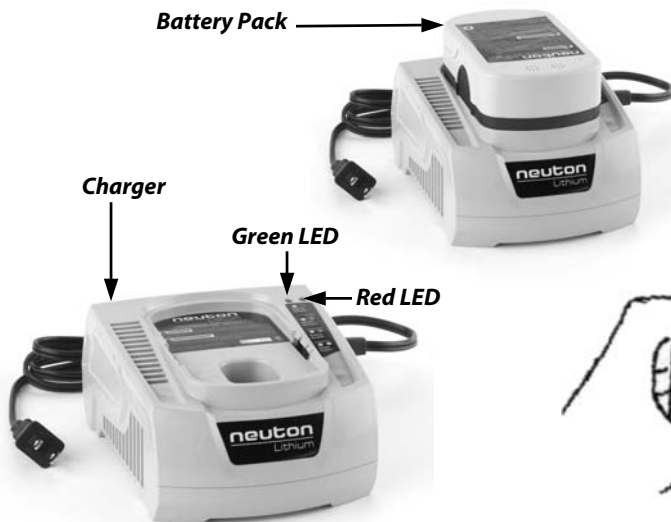

Figure 3
1. Plug the Charger into a standard household electrical outlet (**Figure 3**). The Green LED will glow.
2. Place Battery Pack in the Charger (**Figure 3**). The Battery Pack and Charger have keyways so they will fit together only one way. When properly connected, the RED LED will glow (**Figure 3**). If the RED LED flashes, this indicates a defective or wrong type Battery.
3. The Charger Indicator Light will glow RED continuously while charging. When fully charged the RED LED will change to GREEN, the Charger will shut OFF automatically after two (2) hours and the LED will remain GREEN.